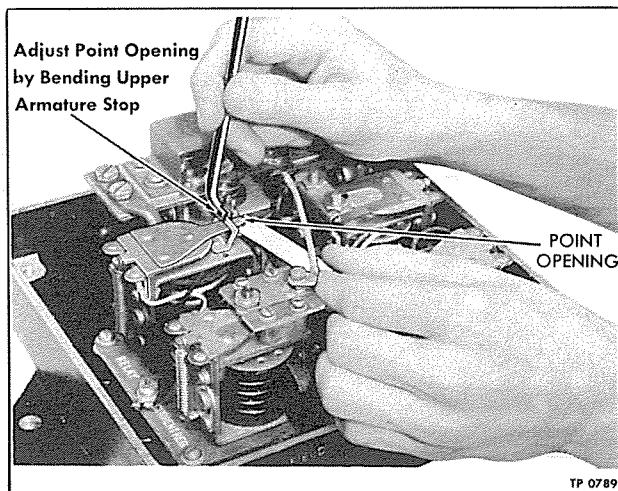

Figure 9—Actuating Relay Point Opening Check and Adjustment
1. Check point opening using feeler gauge (fig. 9). Opening should be same as listed under "Specifications" later in this section.
2. To adjust, bend armature stop (fig. 9) until proper point opening is obtained.